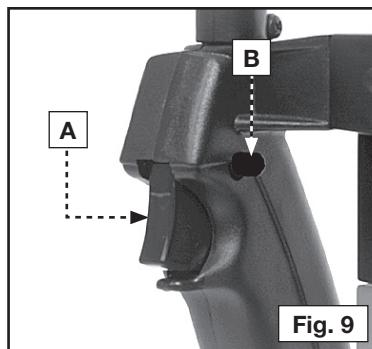

Fig. 9
1. Squeeze the trigger switch (A) Fig. 9 to start the motor. Release the trigger switch to stop the motor.
2. To allow the motor to run continuously, press the trigger switch (A), push the lock button (B) Fig. 9, and release the trigger switch.
1. release the trigger switch (A) Fig. 9.